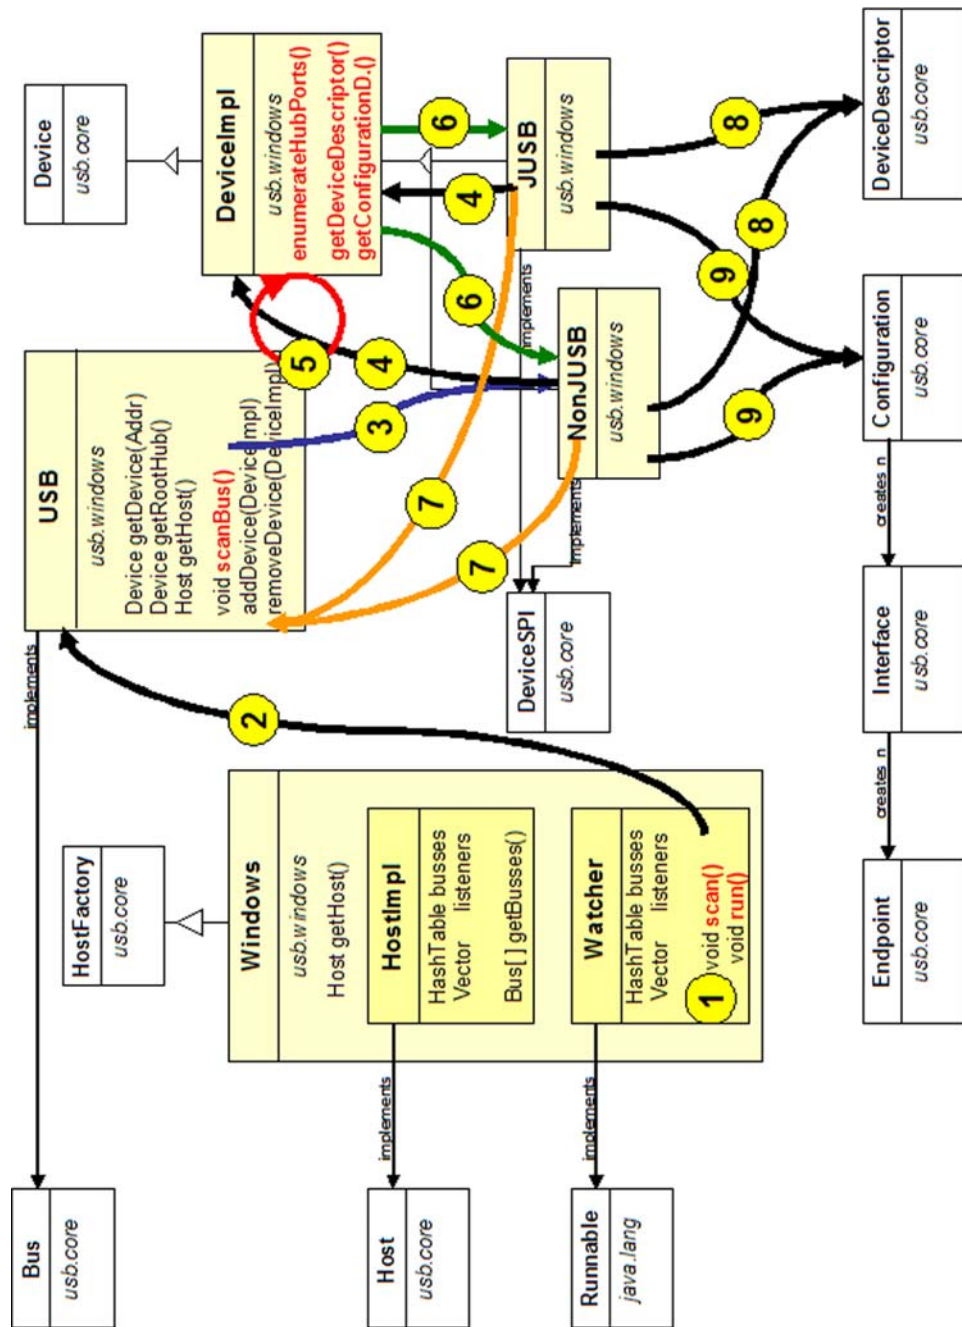

Figure 7: Class overview with its interaction
The *Windows* class which extends the *HostFactory* class contains to inner classes the *HostImpl* and the *Watcher* class. The *Watcher* class (Figure 7: ①) implements the *Runnable* interface and is therefore used for thread activity. The *Windows* class runs the *Watcher* thread as a daemon thread. This means as soon as our main application is finished, the *Watcher* thread will terminate as well. Within the *run* method, method *scan* should be called anytime when something has changed on the bus. The notification of USB structure changes we wanted to implement with a call-back function to the USB native on Windows with the aid of the *RegisterDeviceNotification* function. It is better if the *Watcher* only starts the *scan* method when really something has changed on the bus. In the `usbview` example this notification is done with *RegisterDeviceNotification*. This will call an event which can be handled in the *WindowProc* call-back function. Unfortunately this call-back depends on a window application. This means we can only fetch that event in a window object. So far we have only native calls in the jUSB DLL. We tried to make a fake window, which was not visible for the user to catch than the `WM_DEVICECHANGE` event, which is broadcasted when a change on the USB happened. This topic has some related aspects in user forums, but it seems to be that every one fight with the same problem. *RegisterDeviceNotification* is not usable in a DLL! If someone gets a solution we will be happy to here it.
Anyway the *Windows* class polls now every two seconds the bus to look for changes on the USB structure. The major task of the *scan* method in the *Watcher* class is to find out through a native call how many USB host controllers the current machine supports. It creates for every USB host controller a new *USB* object. It checks first of all if there already exist a *USB* object. In the case of already having a *USB* object it will just call the *scanBus* method of this *USB* object to monitor if changes have been occurred. In the other case a *USB* object will be created and put to the *HashTable* of current busses (Figure 7: ②).
USB Class	<p>is given at enumeration time. The major work is done through the scanBus method. At first, it creates the root hub which exists only once for a USB bus (host) (Figure 7: ③). To avoid misunderstanding between the names of the Host class as they can be found in the Java USB API and the host of an USB bus, we briefly explain their differences. The Host class is an abstract definition for all USB busses on a system. Every USB bus consists always of a host and a root hub. The USB class does implement a host as defined in the USB specification. Therefore we can say that the USB class itself represents a host as known in common sense. Every USB object contains a root hub. This fact indicates that the USB class itself must be a host in USB topology.</p>
Naming Convention	<p>The scanBus method in the USB object gets now the native rootHubName of that given hostcontroller and creates a new NonJUSB for that root hub (Figure 7:③). This will be done in either way if we have already an existing root hub or not. This design is made in that way because we call the enumerateHubPorts method in DeviceImpl recursively to get all devices on the bus and the bus structure itself. The root hub creation starts this recursion and therefore we need to create it for each scan. In other words the enumeration is done by the devices itself and every device that exists on the current bus will add itself to the USB object. To avoid always getting notified by the USBListener that a new root hub is created we check if we already have a root hub for that bus and do only notify the USBListener when there was no root hub before. In the other case we create the root hub again without notifying its listeners.</p>
scanBus	<p>The NonJUSB and the JUSB class delegate most work to their superclass DeviceImpl (Figure 7: ④). The DeviceImpl class has two constructors, one is used for the root hub and the other one is used when the device is either a USB device or an external root hub. The DeviceImpl object will get some information about the USB device itself. Through native calls it will get to know how many ports it has and what kind of device type is connected to each of their ports. The port can be free (no device connected) or a device or even a hub can be connected. If a hub is connected we recursively call the enumerateHubPorts method to get all the children of the hub (Figure 7:⑤).</p> <p>The enumerateHubPorts method is in charge to update the bus structure. It knows the recent structure from the oldDevices member. It compares those members with the currently processed device. If the currently processed device can be found at the same address in the oldDevices member, we check the device to make sure that it is still the same. In case of a device (not a hub) the decision is made in one step. We only check if the device's current unique ID correspond to the recent device unique ID. If not, we remove the recent device from the bus and add the current device to the bus and inform the listeners about a removal and an attachment. In case of having a hub we have to check all its ports recursively down, to make sure that everything remains the same. If we remove a hub, we have to inform the listeners about a removal of the hub and all its children that used to be connected to it. In both cases when a device is new to the bus or it has changed we create a new NonJUSB or JUSB object depending on the friendly driver name and add it to the USB object (Figure 7: ⑦).</p>
Enumeration	<p>At the moment when a friendly driver name starts with "JUSB Driver --:", this is a public string constant, called A_JUSB_DRIVER declared in the Windows class, we create a JUSB object and otherwise a NonJUSB object. In either way whether we created a JUSB or NonJUSB object we get the device descriptor through the getDeviceDescriptor method from their superclass. This method is not part of the DeviceSPI, but makes it possible to read the descriptor of any device (Figure 7 : ⑧). Furthermore, we get the default configuration descriptor in the same way (Figure 7: ⑨). If a device has multiple configurations, we only get the configuration with index zero!</p>